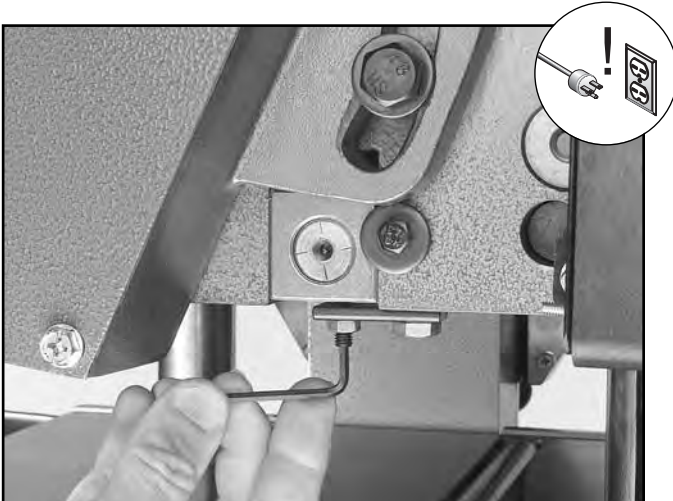

Figure 38. Feed roller height adjustment.
2. Loosen the roller adjustment check nuts and turn the roller height setscrews to change the height of the roller as needed. **See Figure 38.**